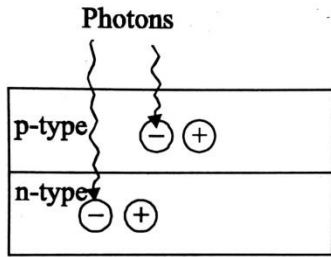

Fig. 4.16
2. These photons collide with valence electrons and detached from the atoms, thus electron hole pairs are produced as shown in figure. 4.16.